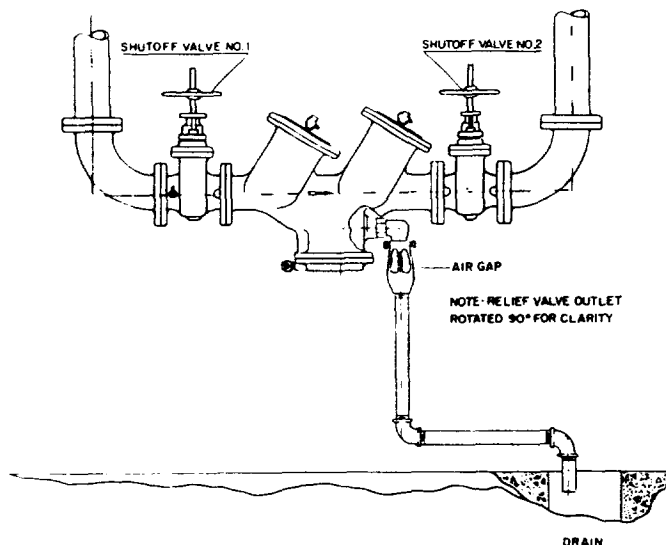

FIGURE 3
### B. COLD CLIMATE INDOOR INSTALLATION (Fig. 3)
- D) In no case should the relief valve discharge be solidly piped into a sump, sewer, drainage ditch, etc. An air gap must be provided between the relief valve opening and the discharge pipe (see Figure 3).